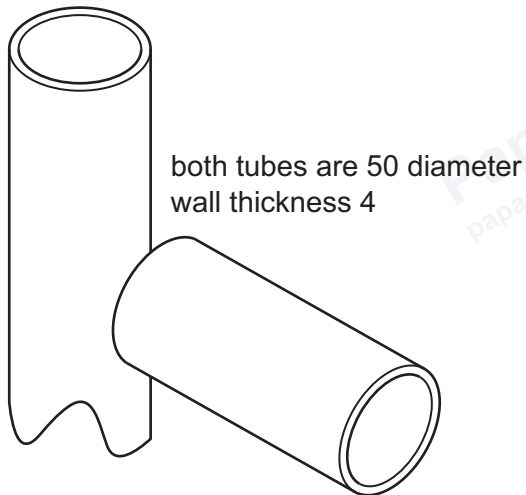

Figure 10.2
- (ii) Figure 10.2 shows two steel tubes that form part of a structure.
Give **two** stages when **permanently** joining the steel tubes in Figure 10.2 in the position shown.
- (iii) The joint on the tubes in Figure 10.2 may need to be reinforced. Use sketches and notes to show **one** way of reinforcing the joint.